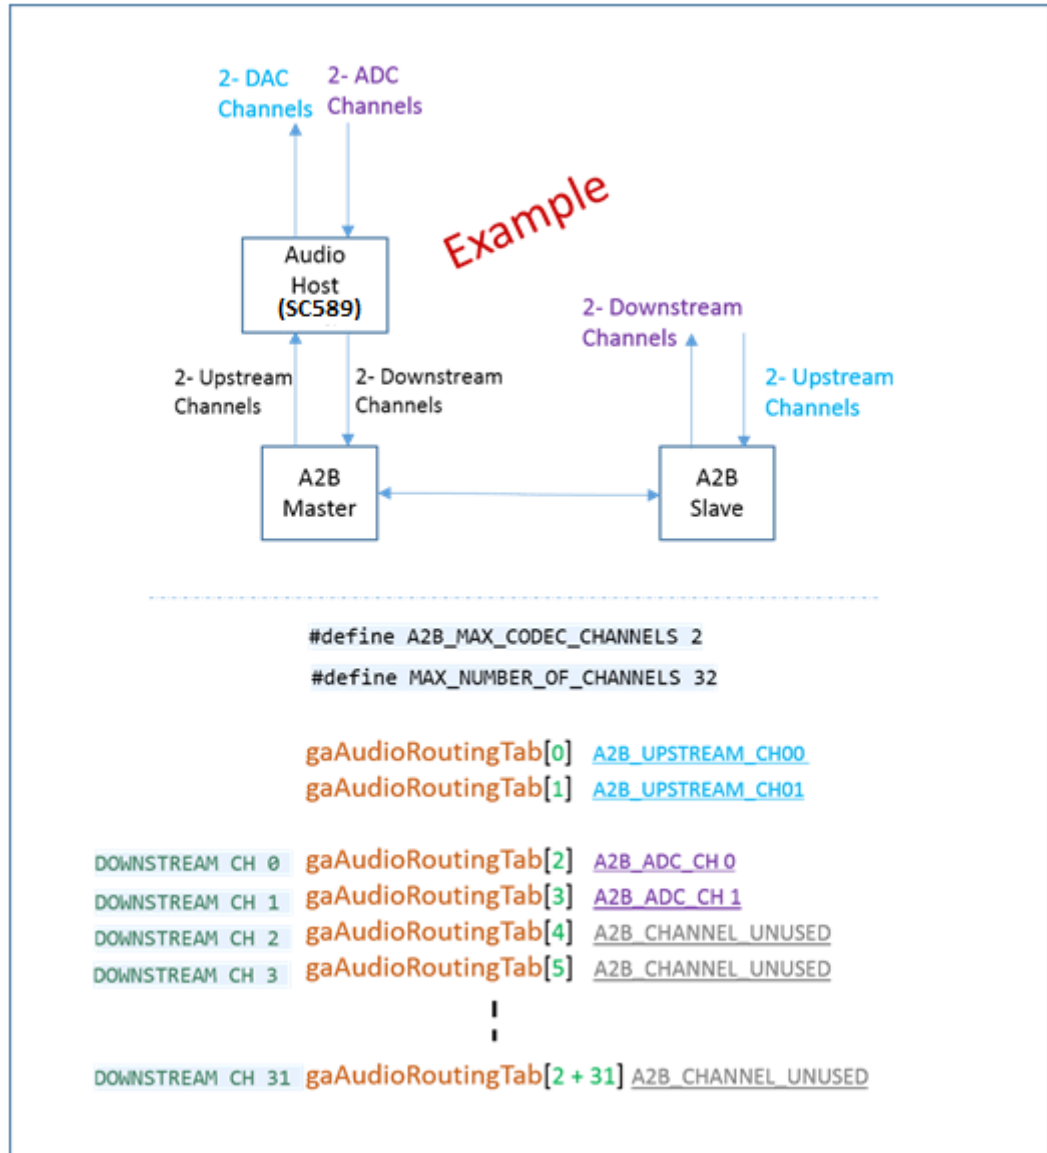

Figure 32: Audio Routing with ADSP-SC589 as Host
- 3 The demo audio configuration and corresponding example audio routing table is as shown in Figure 32. To customize modify the routing against each downstream channel (fixed position).